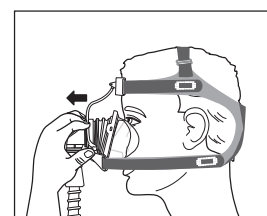

Figure 6
- a) If leaks occur, reseat the mask by pulling the mask faceplate directly away from your face and set it gently back into place (Figure 6). This allows the cushion to create a new seal on the face. Do not pull the mask by the elbow.